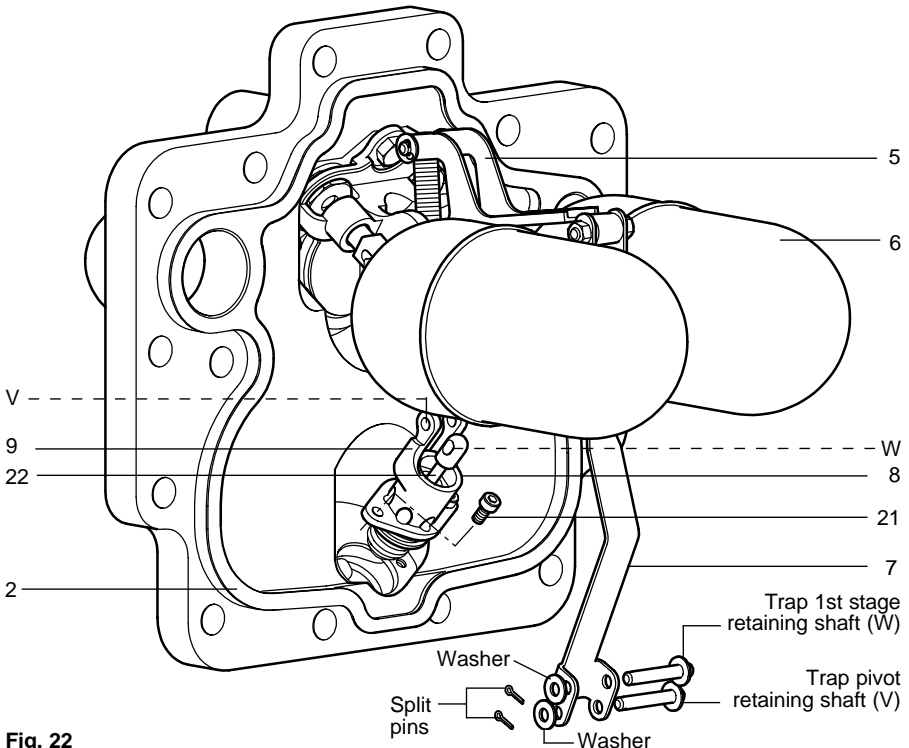

Fig. 22
3. Carefully fit a new gasket (item 2) into the existing body.
4. Remove split pin, washer and shaft from the trap pivot (V) (See Fig. 22).
5. Remove split pin, washer and shaft from the trap 1st stage valve (W).
6. The floats and levers (items 5, 6 ,7) can now be swung out of the way leaving access to the trap and check valve assembly.
7. Using the 4 mm Allen key unscrew the two M5 cap screws (item 21).
12. Tighten the two M5 cap screws (item 21) to 5 ± 1 N m (4 ± 0.7 lbf ft).
13. Refit the two shafts (V and W) (length 38 mm) - remembering to use new split pins and washers - to the trap housing (item 9) and trap 1st stage valve (item 22).
14. Move the floats to their upper and lower limits to ensure the trap mechanism operates smoothly and both the 1st stage and 2nd stage valves (items 22, 8) slide smoothly within their guides.